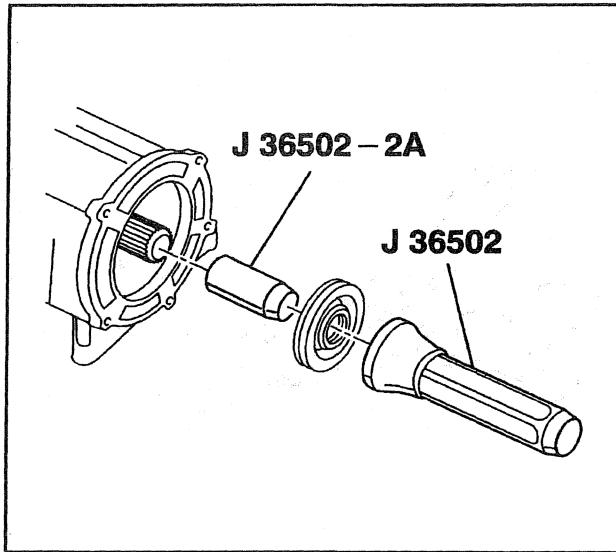

Figure 9—Extension Housing Seal Installation (4WD Models)
Install or Connect (Figure 9)
1. New seal, using J 36502-1 (figure 9).